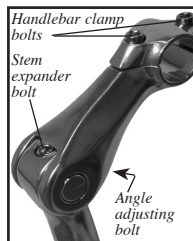

Figure 12- Adjustable-rise quill stem
To adjust the height of the adjustable-rise stem in Figure 12, first change the stem angle, which gives access to the stem expander bolt.
1. Loosen the (Figure 12) until the stem can be rotated.